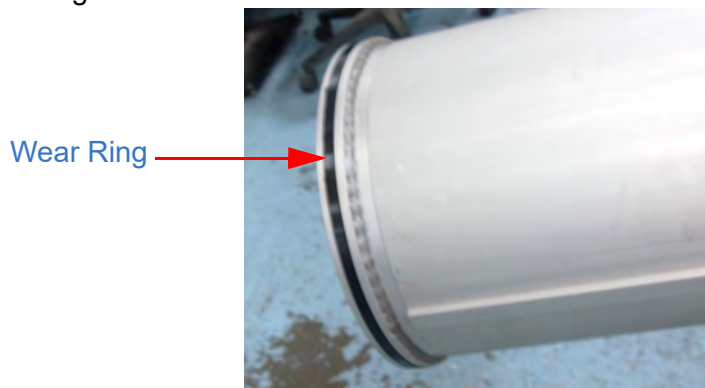

Figure 8-14 Wear Ring in Butt Plate Groove
5. Slide the wear ring down into the groove (Figure 8-14). For 9.12 and 10.00 inch tubes, use both wear rings.